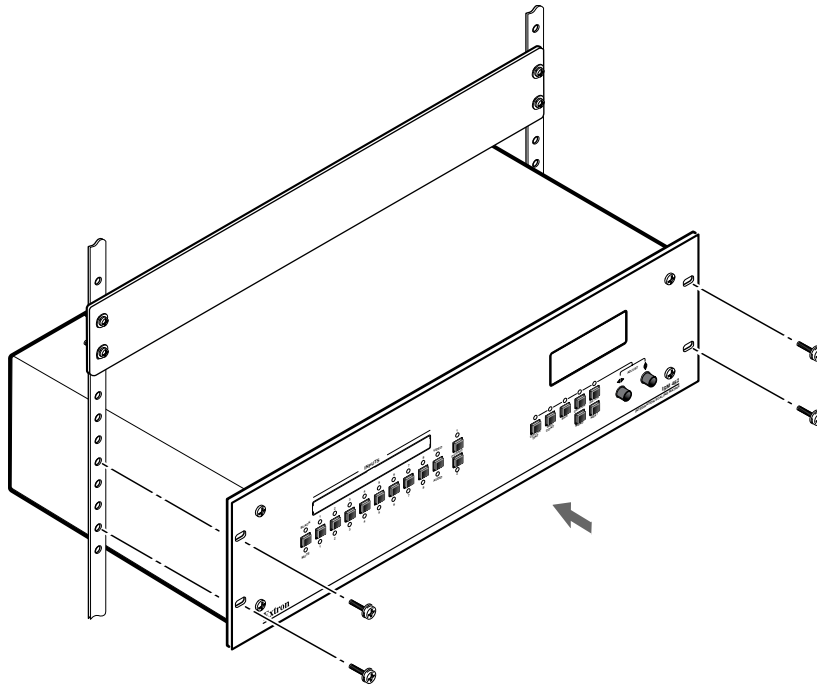

Figure 2. Mounting the Switcher
The following Underwriters Laboratories (UL) requirements pertain to the installation of the switcher into a rack (see figure 2 on the next page).
To rack mount the switcher, use two screws on each end of the switcher to attach the switcher to the rack (see figure 2).